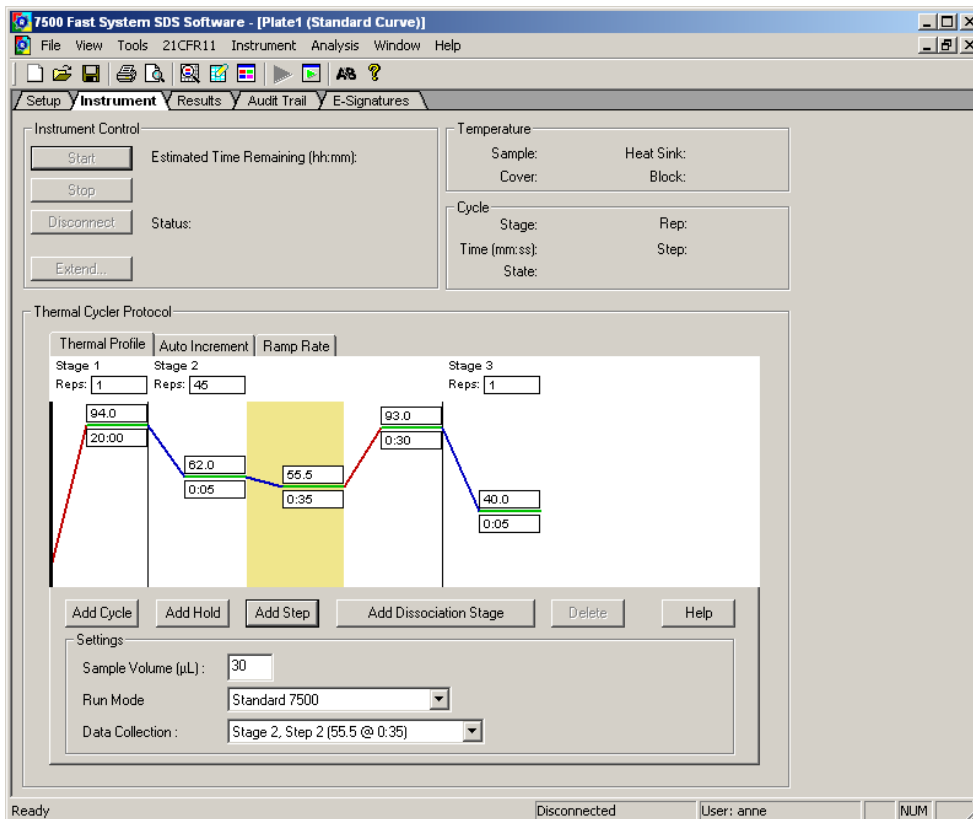

Figure 2: Screenshot after setting cycler program and detection mode.
- Confirm the Thermal Cycler Protocol settings according to Table 7 (see Figure 2).